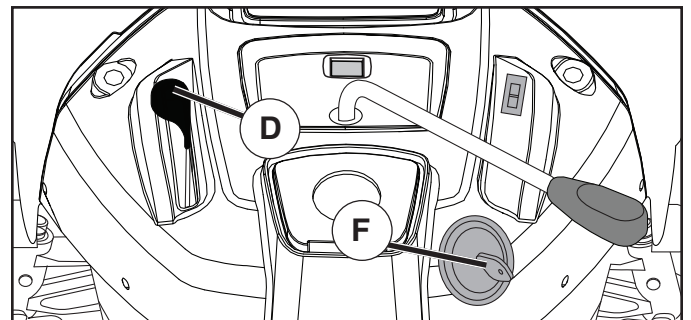

Fig. 10
- Move throttle control (D) to slow position.
- Turn ignition key (F) to "STOP" position and remove key. Always remove key when leaving tractor to prevent unauthorized use.
### TO USE THROTTLE CONTROL (D) (See Fig. 10)